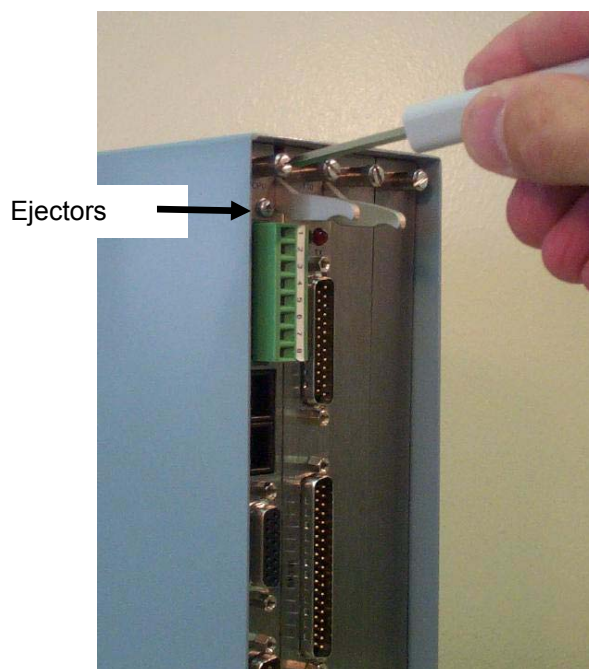

Figure 2-8. Unscrewing the Retention Screws
2. Unscrew the retention screws before you attempt to remove a board. This avoids damage to the ejectors (refer to Figure 2-8).